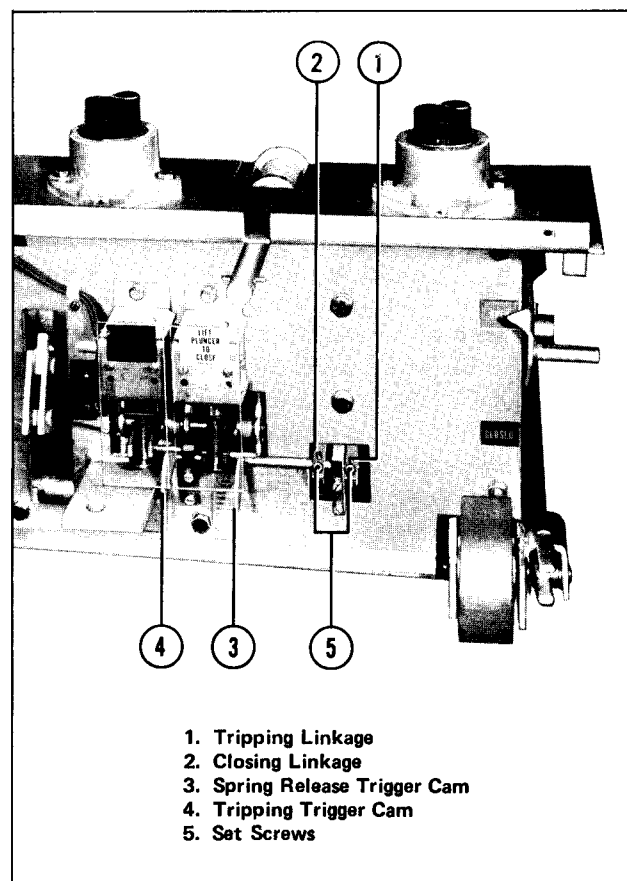

Fig. 37 Floor Tripper Adjustments
5. If breaker closes on 1/2 inch high surface or does not close on 5/8 inch high surface, reposition spring release trigger cam, Item 3, Fig. 37, by loosening the set screw, Item 5, Fig. 37, and moving the cam up or down as required.